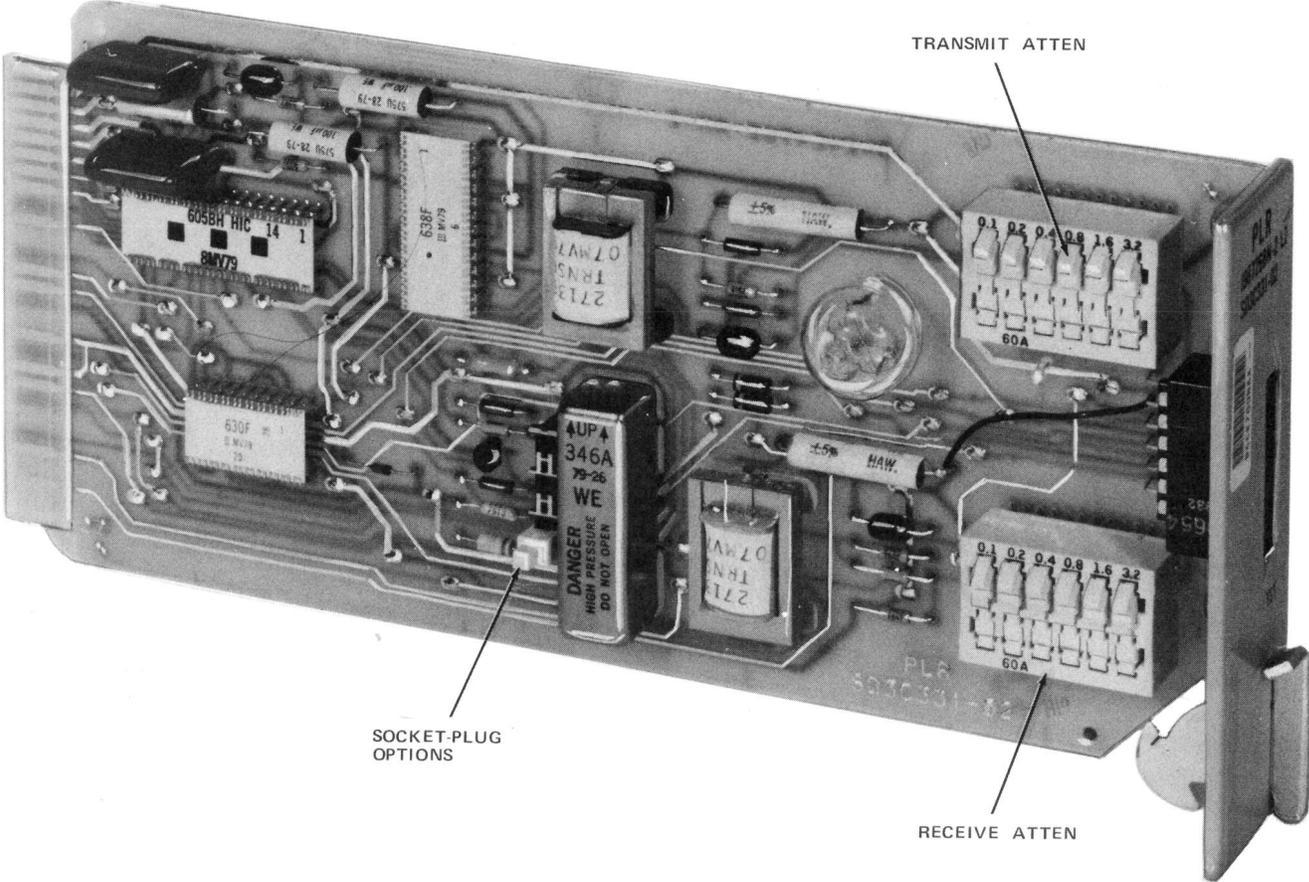

Fig. 1—PLR Unit
- 1.01** This section provides a detailed description of the pulse link repeater (PLR) and tandem (TDM) channel units for the D4 channel bank. These units incorporate many of the same design features (card jack, attenuators, and option blocks—Fig. 1 and 2) found on other D4 channel units and can be used in any of the D4 channel positions. Both units are 4-wire units and are intended to connect to other channel units to provide back-to-back channel unit application. Equipment coding and schematic coverage is given in Table A.